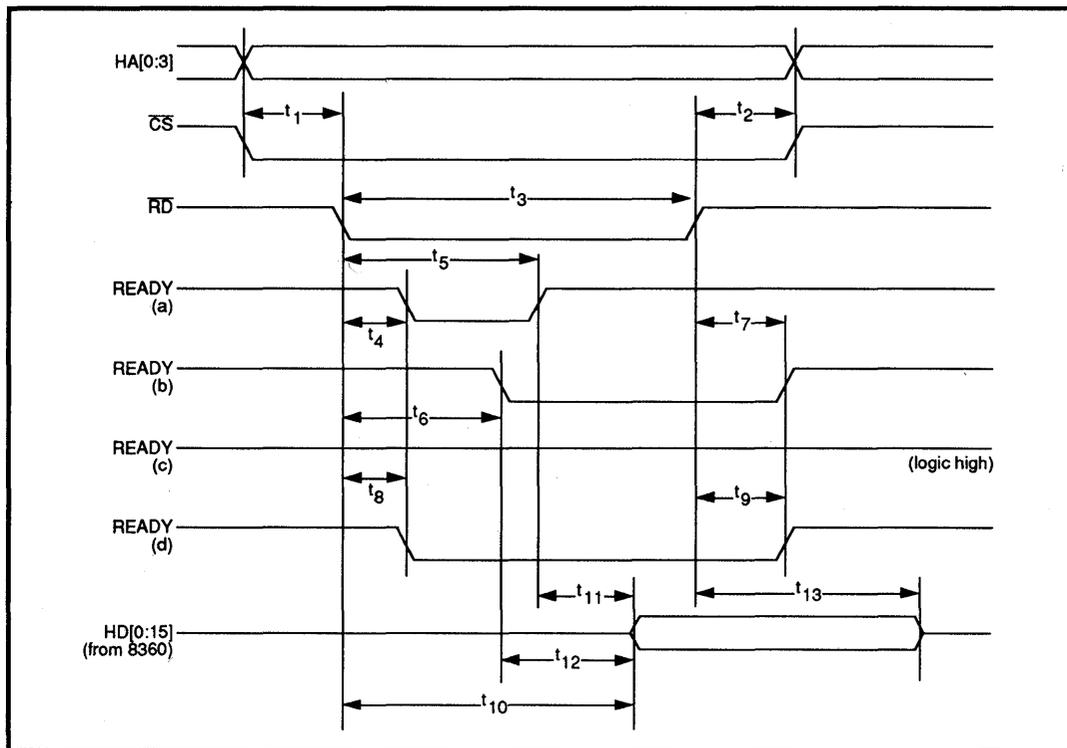
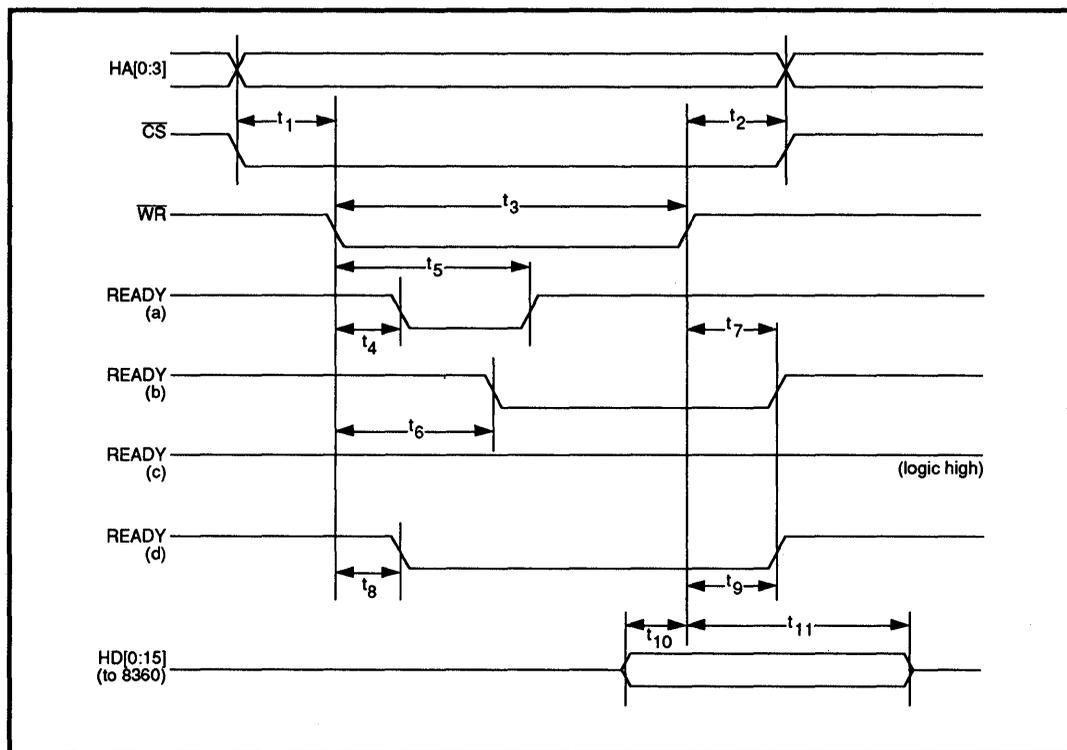

FIGURE 3: Read Cycle
FIGURE 4: Write Cycle
- Note: (1) An asserted EOP terminates any further DMREQ after $\overline{\text{DMACK}}$ returns high.
(2) The DMA cycle uses $\overline{\text{DMACK}}$ as the chip select. $\overline{\text{DMACK}}$ overrides $\overline{\text{CS}}$ and HA[0:3] if they are both asserted at the same time, forcing selection of the Buffer Memory Port as in a DMA cycle.
(3) For READY timing and HD[0:15] timing, see Figure 3, t_4 - t_{13} , and Figure 4, t_4 - t_{11} .
- Note: (1) DMREQ goes low during the next-to-last transfer of the burst. \overline{DMACK} should not go high until after the \overline{RD} or \overline{WR} pulse of the last transfer cycle goes high
- (2) The DMA cycle uses \overline{DMACK} as the chip select. \overline{DMACK} overrides \overline{CS} and HA[0:3] if they are both asserted at the same time, forcing selection of the Buffer Memory Port as in a DMA cycle.
- (3) For READY timing and HD[0:15] timing, see Figure 3, t_4 - t_{13} , and Figure 4, t_4 - t_{11} .